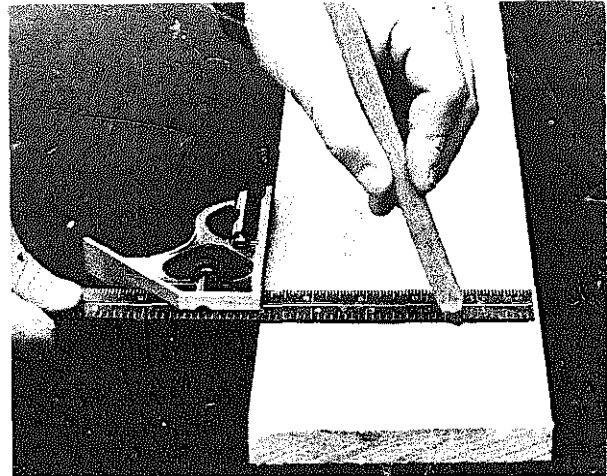

Fig. 4-53 Laying out rough work with a heavy carpenter's pencil
1. To lay out rough work, a heavy carpenter's pencil can be used. See figure 4-53.